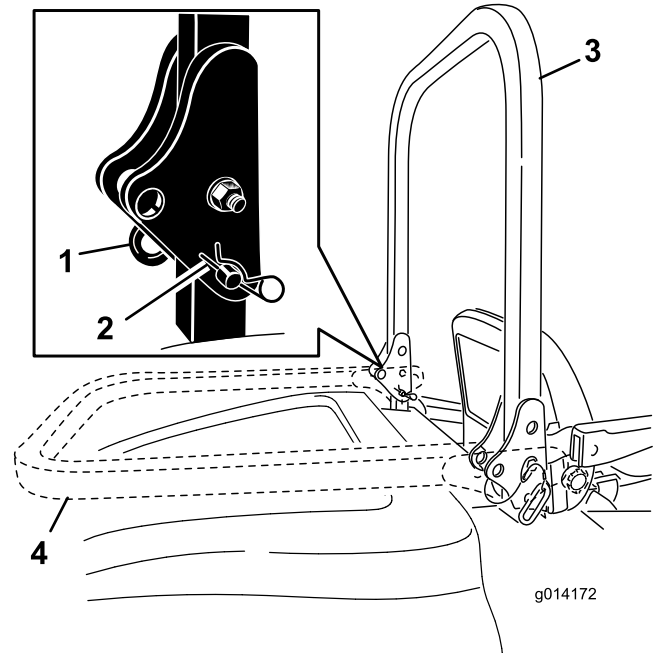

Figure 19
2. Remove the 2 hairpins and remove the 2 pins (Figure 19).
3. Raise the roll bar to the upright position (Figure 19).
4. Secure the roll bar with the 2 pins and 2 hairpins (Figure 19).
1. Remove the hairpins, push the roll bar forward against the springs, and remove the 2 pins (Figure 19).
2. Lower the roll bar to the down position (Figure 19).
3. Install the 2 pins into the pivot plates and secure the pins with the 2 hairpins (Figure 19).